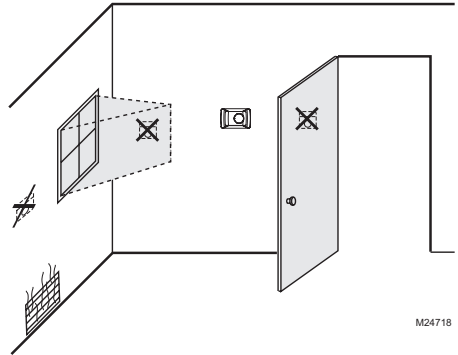

**Fig. 5. Run wire to the mounting location.**
3. Run two-fan, low-voltage wire to the mounting location on the duct. See Fig. 5.